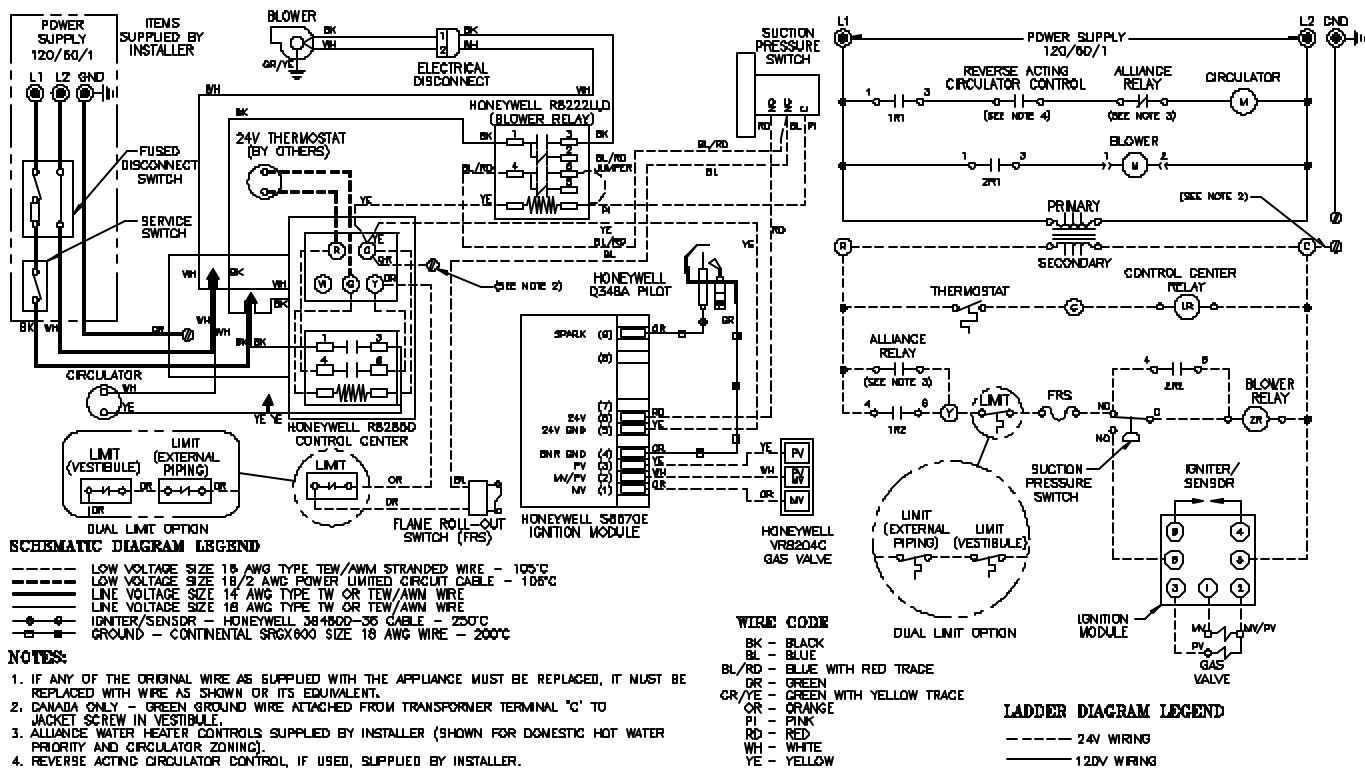

Figure 10: Wiring Diagram
C. Wire thermostat. Provide Class II circuit between thermostat and boiler. Run wires through grommet in Jacket Left Side Panel. Set thermostat heat anticipator to 0.6 amps. See Figure 10.
D. Wire boiler. Boiler is rated for 120 VAC, 60 hertz, less than 12 amperes. Provide individual branch circuit with fused disconnect. Connect to black and white wires and green ground screw. See Figure 10.
E. Alliance water heater (if used). See Figure 10. Also refer to *Alliance Installation, Operating and Service*